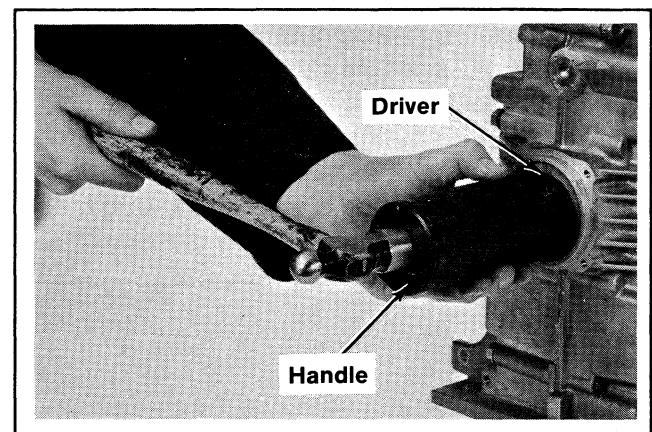

Figure 11-24. Installing Oil Seal Using Driver.
2. Using the #11795 handle and appropriate seal driver, install the front oil seal to a depth of $\frac{1}{32}$ " ($+\frac{3}{64}$ "; $-\frac{1}{64}$ "). Refer to Figure 11-24.
- Using the #11795 handle and appropriate seal driver, install the rear oil seal to a depth of 5/32" (+ 3/64"; -1/64"). Refer to Figure 11-24.